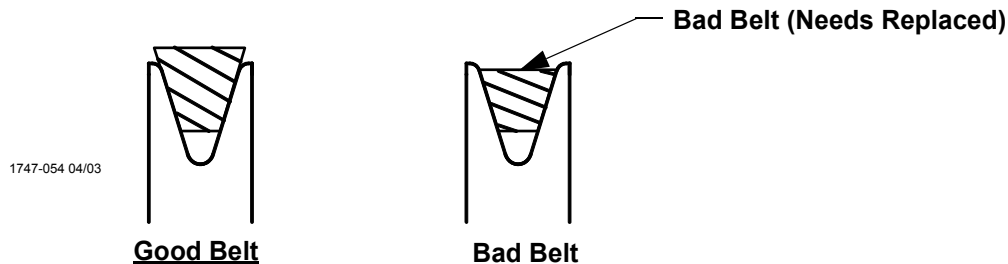

Figure 34. Belt Condition
- Periodically check the V-Belt and replace if necessary. A worn Belt will cause a substantial drop in Fan performance or it can break and cause Fan failure. If a Belt rides below the Sheave edge, replace the belt. (See **Figure 34 below**)